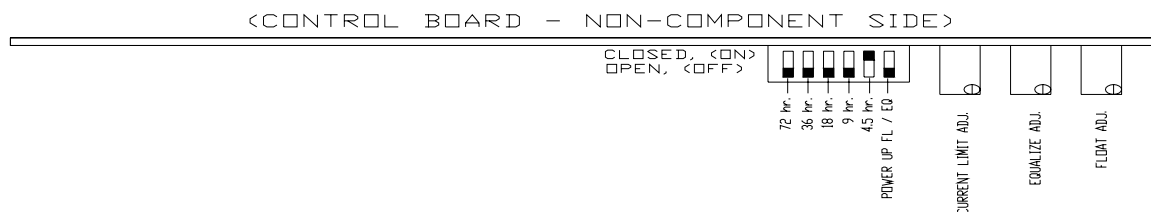

fig. 6 – 1
3. The Control Circuit Board is located approximately in the center of the door. The Voltage Adjustment controls are located on the right-hand side of the Board on the edge nearest the top. See *fig. 6 – 1*. Set the desired mode (Float or Equalize) by pressing the Float / Equalize Select Button located on the front panel above the AC Breaker. The button will be illuminated in Equalize mode and off in Float mode. For more information regarding the Float / Equalize features see *Section 7, "Equalize Timer"* and *Appendix A, "Battery Handbook"*.